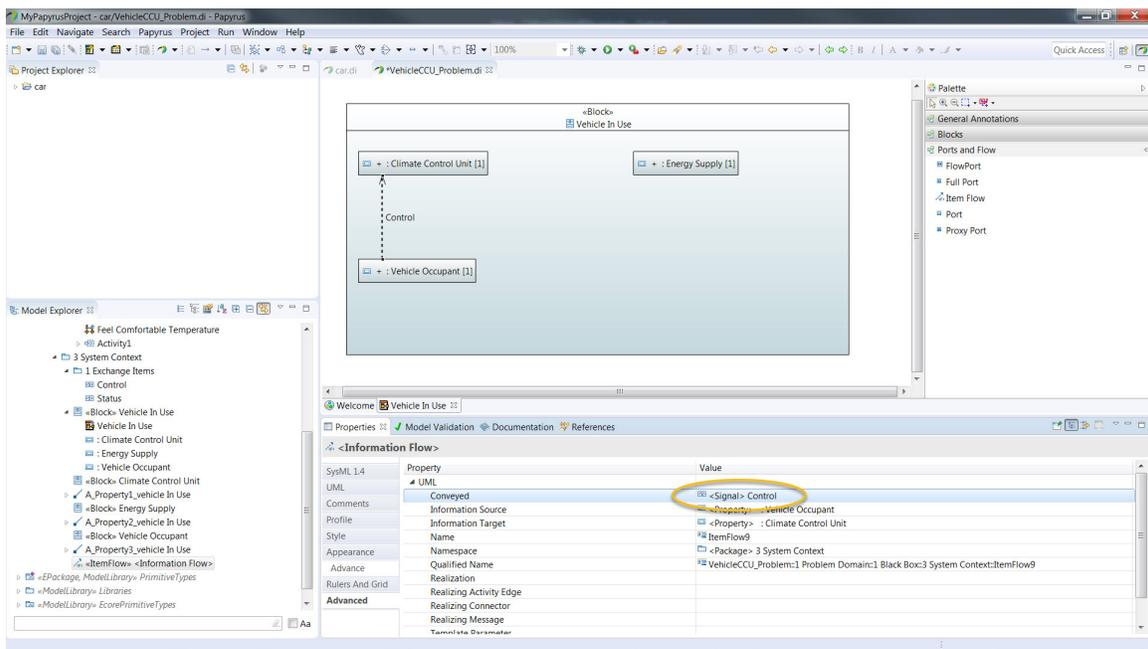
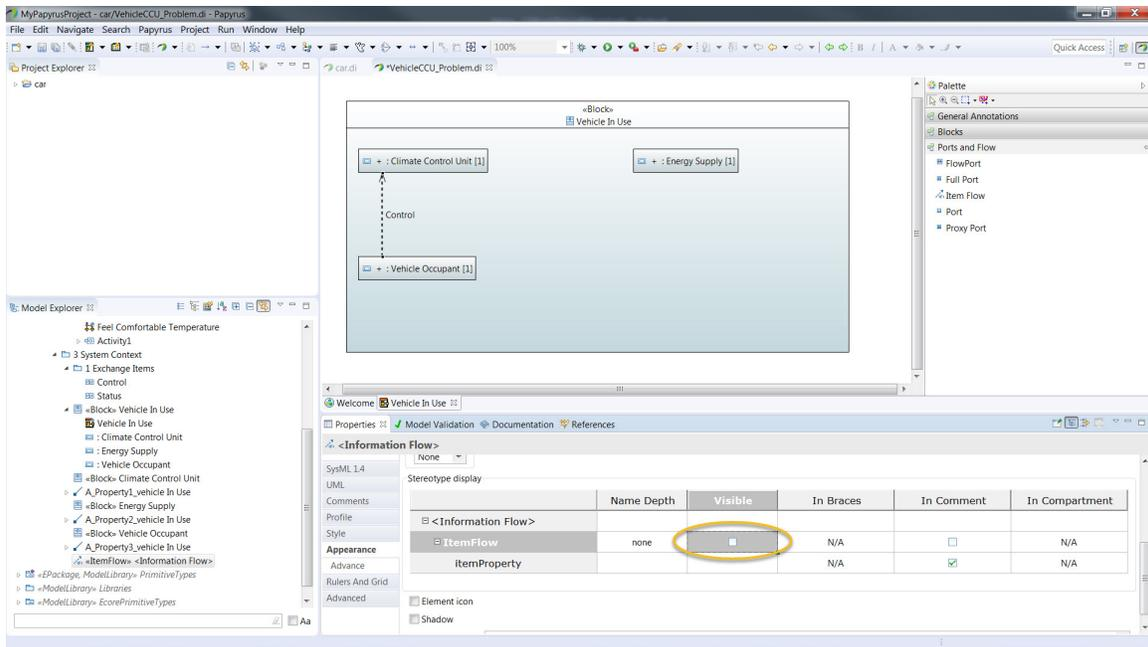

Figure 68: Conveying the Control Signal
Figure 69: Item Flow Visibility
7. Notice that the value of the **Conveyed** property now shows our **Control** signal (figure 68) and it appears on our item flow in the internal block diagram. Note that to eliminate the other labels you can go the **Appearance** tab and uncheck the item at the intersection of **ItemFlow** and **Visible** (figure 69).